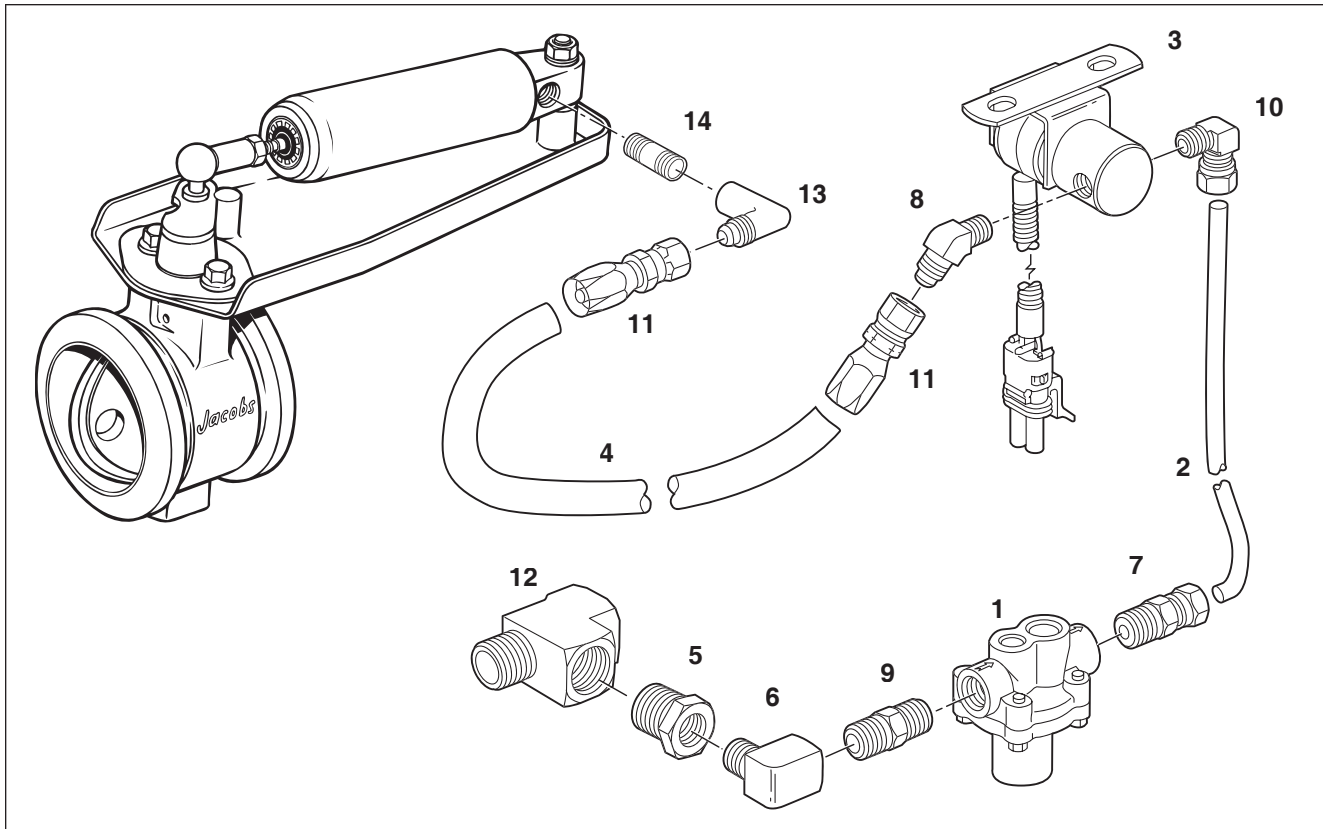

FIG. 5
1. Install the protection valve at the air tank outlet chosen for the E Brake air supply, using the proper pipe fittings (see Figure 5 on the next page).
4. Connect port "2" or "A" to the E Brake air cylinder using the air hose as shown in (see Fig. 5).
5. Use the 1/4 - 18 NPT compression fittings for the tubing connections from the air tank to the solenoid valve (see Fig. 5).